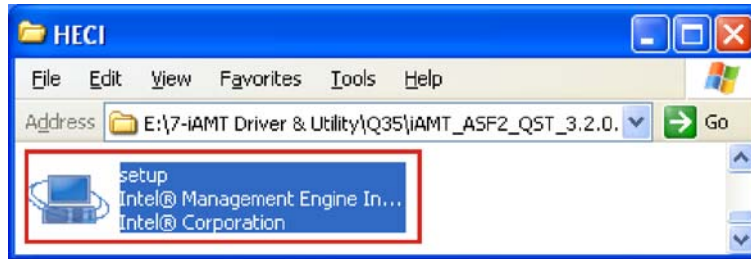

Figure 7-38: IAMT Driver Directory
Step 2: Browse to the "**HECI**" folder (**Figure 7-38**).